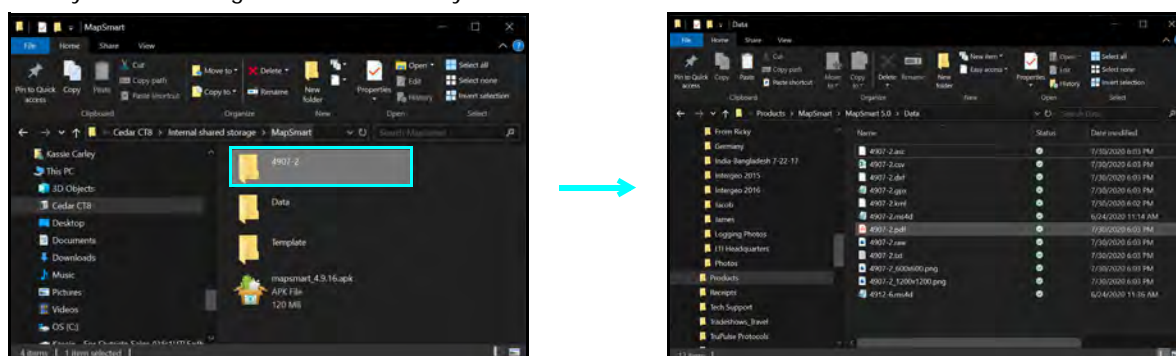

Figure 124
4. Double-click the folder that coincides with the survey name and the saved survey reports will display (Figure 124). To delete all saved reports on the Android device, highlight all the survey folders and right-click/delete with your mouse.